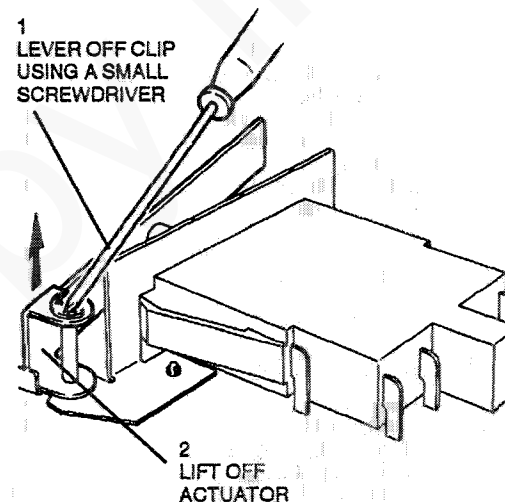

Figure 1. Interlock switch actuator removal
2. (Figure 1) Remove the interlock switch actuator.